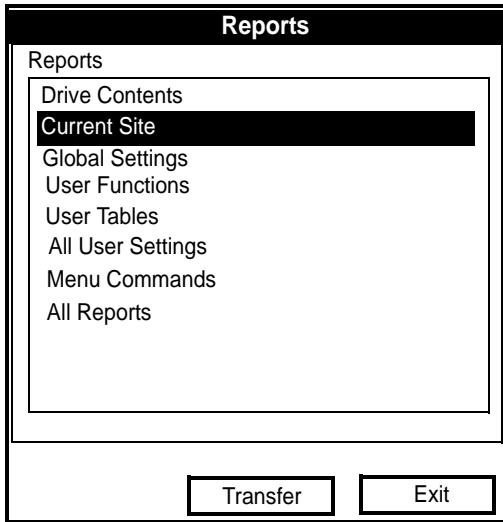

Figure 106: Reports Window
2. Start HyperTerminal and set up the communication link to match the Com port and RS232 settings of the PT878 (see Figure 106 below).